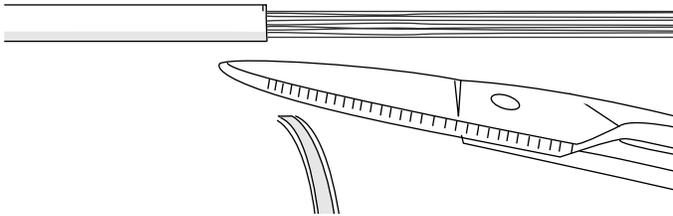

Figure 7
**4.6** Remove the split length of outer jacket. Trim the jacket as close as possible to the marked strip length with scissors (Figure 7).